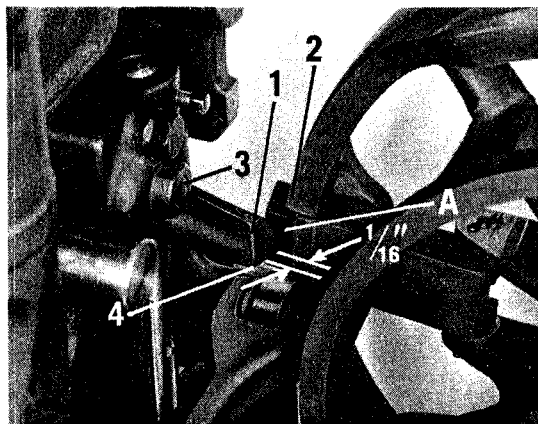

Fig. 5
5) With the starting handle pulled all the way out, the vertical lever 1 in Figure 5 should push the stopping pawl 2 so that it will
necessary, at the same time maintaining finger pressure on the lever toward the pawl. When the clutch handle is pushed in, vertical lever 1 should clear pawl 2 by $1/32''$ at point A. This adjustment is made by the screw located on the column of the machine, directly behind the vertical lever, and is not visible in Figure 5.